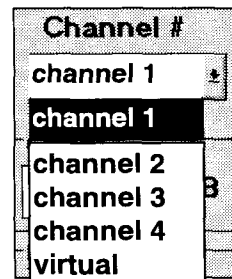

Figure 5-11. Channel Selection
1. From the **Channel Setup** window, choose the  button to open the **Channel #** list box as shown in Figure 5-11.